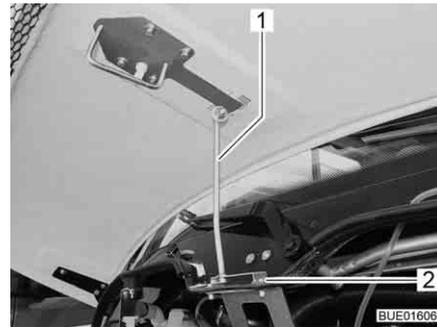

Fig. 39 Bonnet supports (Viseo)
- Unfold the supports (Fig. 39,1) and attach to the holder (Fig. 39,2).